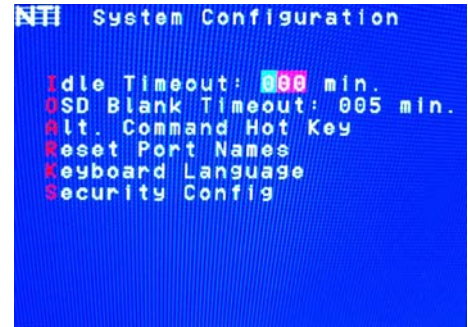

Figure 28- Change value of Idle Timeout
1. press  from the System Configuration menu (page 22) to display the pink edit field around the value (see Figure 28)